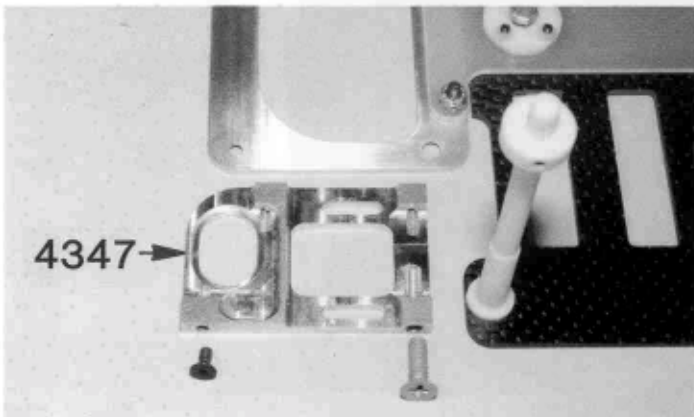

Fig. 30
□ **Figs. 30 & 31**— Mount the #4347 right hand aluminum bulkhead to the lower brace with one allen screw and one Phillips screw.